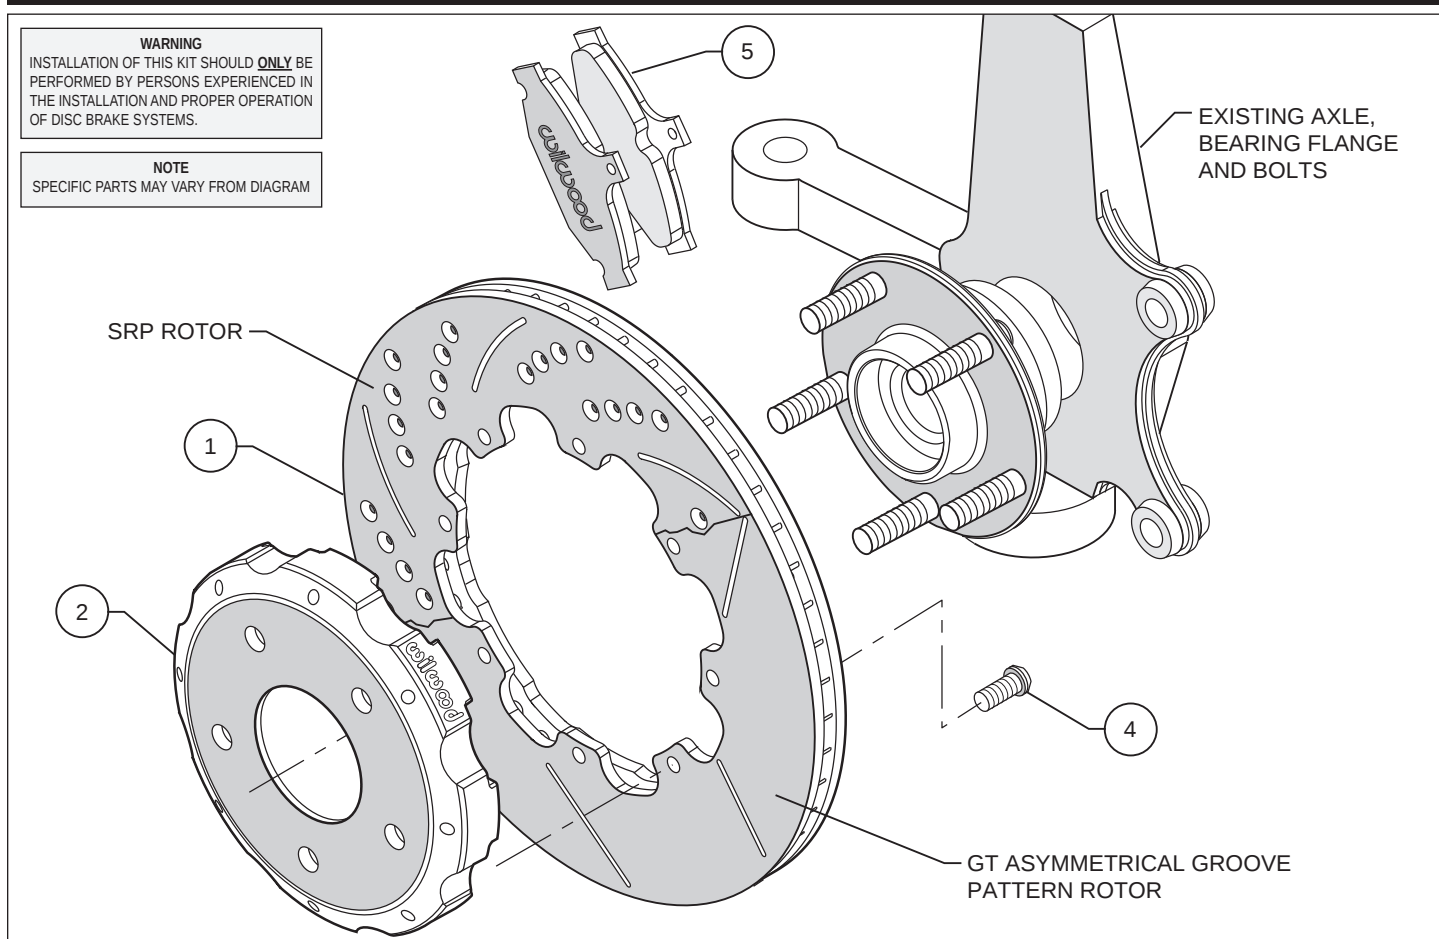

Figure 1. Typical Installation Configuration
- Assemble the rotor (1) to the hat (2) with the bolts (4) as shown in Figure 1. Using an alternating sequence, remove bolts one at a time, apply red Loctite® 271 to the threads, and torque to 25 ft-lb.
- Align the hole pattern on the hat (2) with the stud pattern on the axle flange. Slide the hat and rotor assembly over the wheel studs and against the axle flange face. Check to be sure the hat seats squarely against the axle flange face. The axle flange area must be free from any rust, debris, casting burrs, machining irregularities, etc. Use three lug nuts to hold the rotor and hat in place against the axle flange.
- Install new Wilwood brake pads (5) into stock caliper bracket.
- Install Wilwood's stainless steel braided flexline hose kit (3), see below. **NOTE:** OEM rubber brake hoses generally cannot be adapted to Wilwood calipers. The caliper inlet fitting is a 1/8-27 NPT. The preferred method is to use steel adapter fittings at the caliper, either straight, 45 or 90 degree and enough steel braided line to allow for full suspension travel and turning radius, lock to lock. **Carefully route lines to prevent contact with moving suspension, brake or wheel components.** Wilwood hose kits are designed for use in many different vehicle applications and it is the installer's responsibility to properly route and ensure adequate clearance and retention for brake hose components.